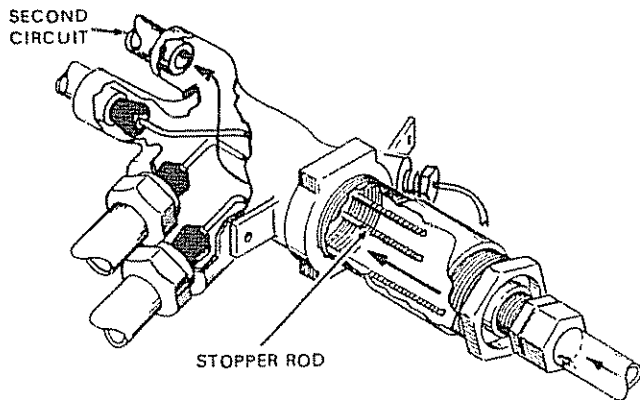

FIGURE 15
11. Transfer stopper, opening second circuit in manifold, fig. 15.